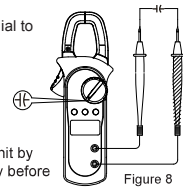

Figure 8
6. Capacitance measurement ($\rightarrow \rightarrow$) (See Figure 8)